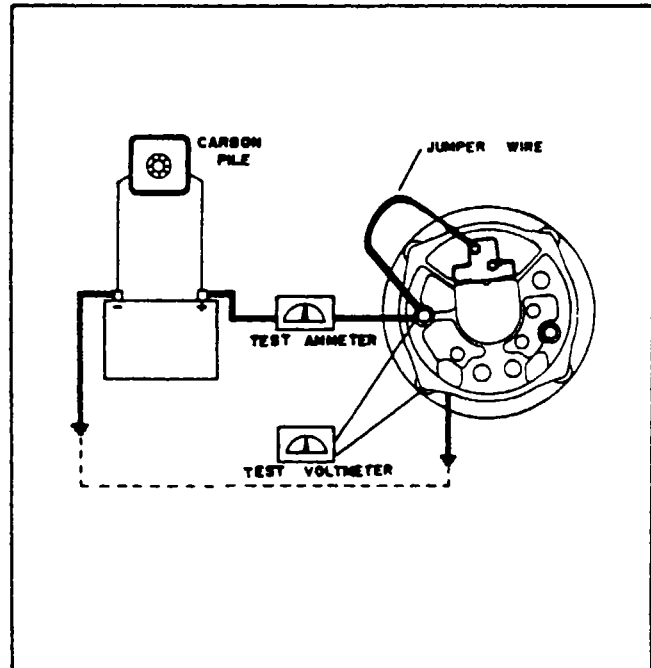

Figure 11-9. Testing Alternator
a. Wiring connections for bench testing the alternator are shown in Figure 11-9. Output test specifications are given in Table XI-II. Adjust the carbon pile if necessary to obtain the specified voltage.